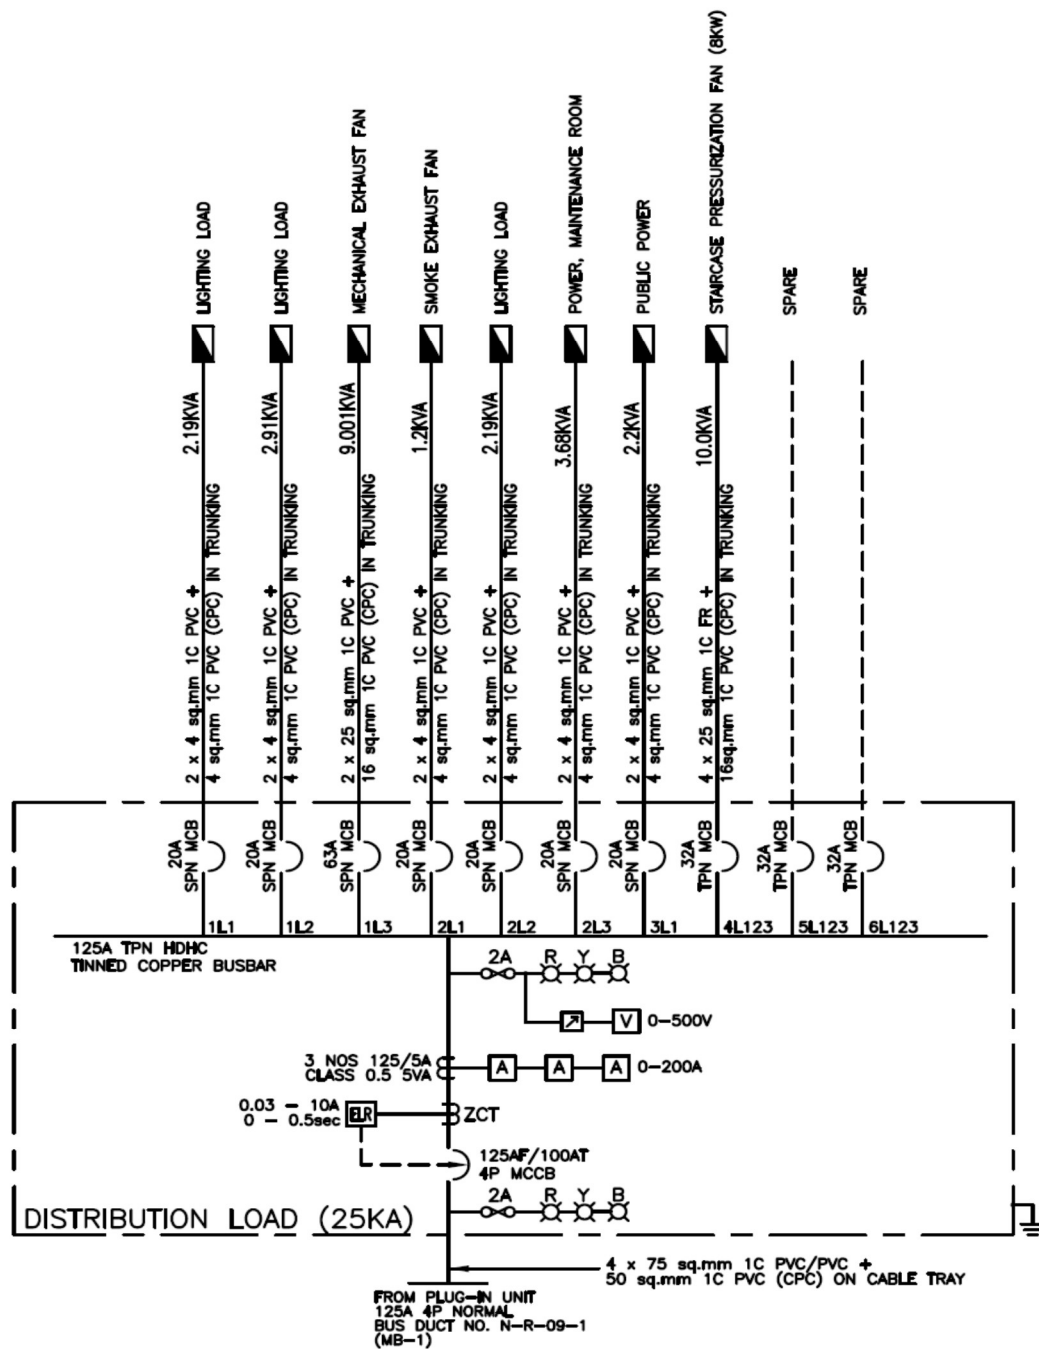

Figure Q1(e)
- 1(e) Refer to the distribution board shown in Figure Q1(e). A new load, an air handling unit (AHU) rated at 11 kW 3-phase 400V at 0.8 pf, will be added to the distribution board.